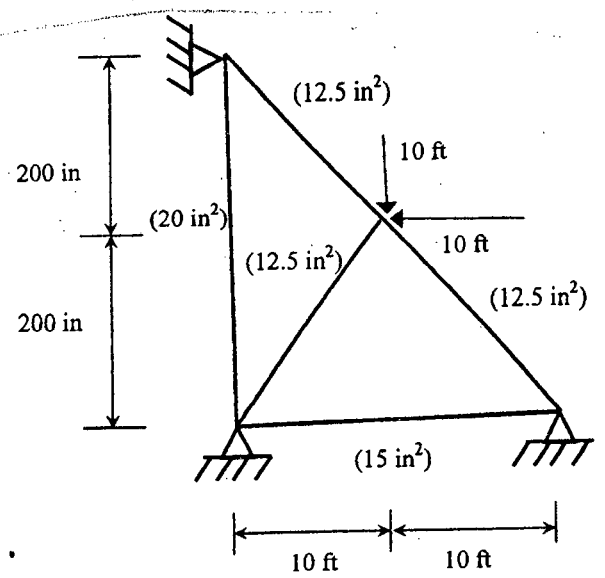

Fig. 6
4. For the plane truss shown in Fig. 6, determine the nodal coordinate matrix, member connectivity matrix, member property matrix, combined load matrix, member stiffness matrix, global stiffness matrix and modified global stiffness matrix. Given, $E = 30,000 \text{ ksi}$. (35)